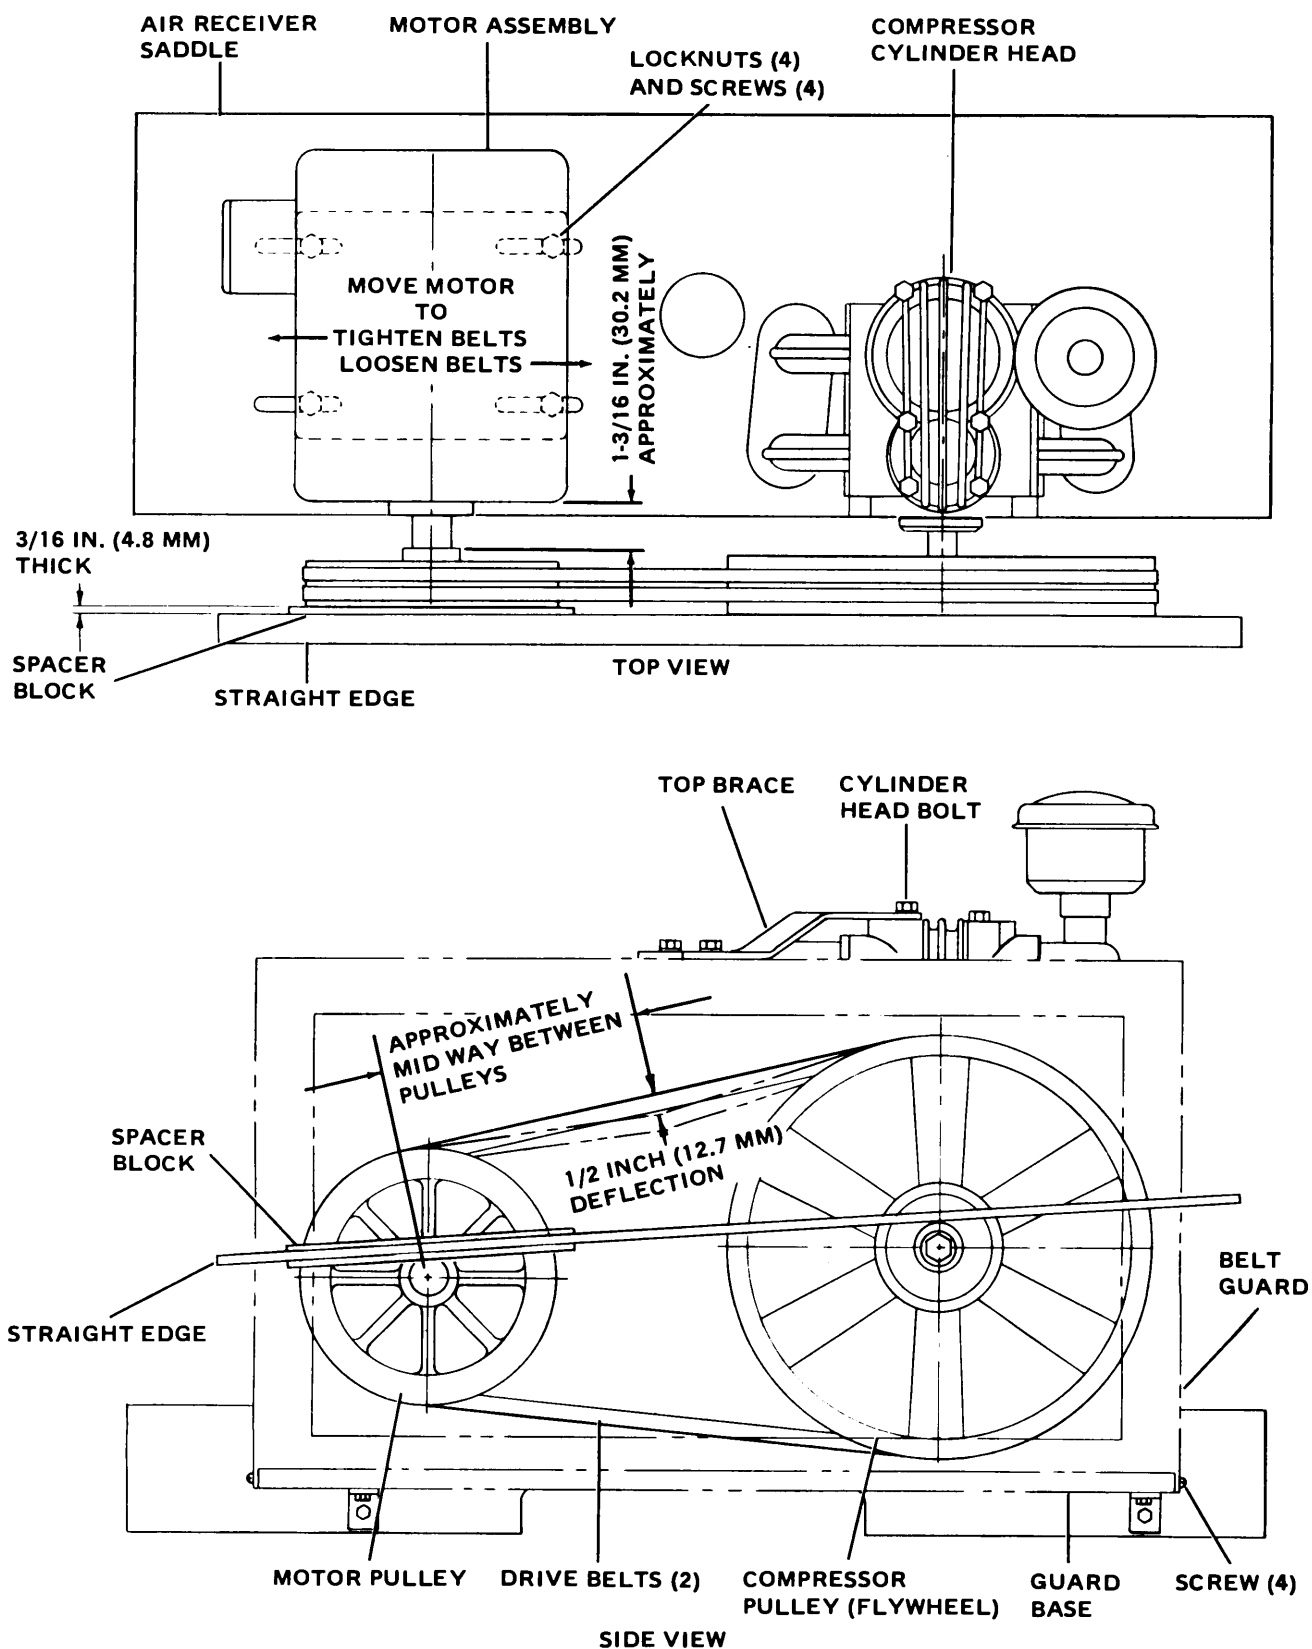

Figure 2-3. Compressor drive belt tension adjustment.
- d.* Refer to figure 2-3 and adjust compressor drive belt tension.